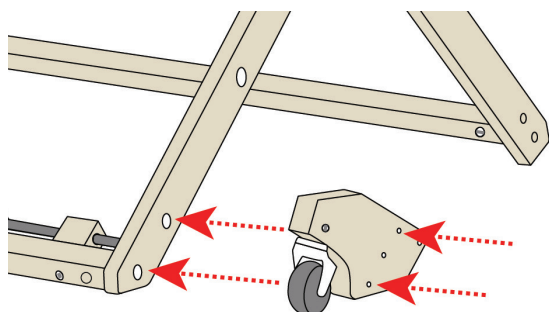

FIGURE 4: ALIGN HOLES
3. Place a stroller block next to the right inside leg, with the wheel at the front of the loom and holes aligned with the leg (Figure 4). You will attach the block through its **top and bottom** holes.